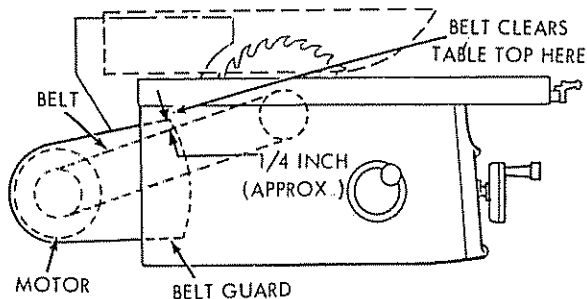

Figure 45
- g. Position the belt guard so the belt clears the inside of the guard at the upper position approximately 1/4-inch and the guard does not touch the underside of saw table. (See figure 45.) Correct positioning of the belt guard is important. If the belt should be permitted to rub against the guard it would soon wear a slot in the guard.